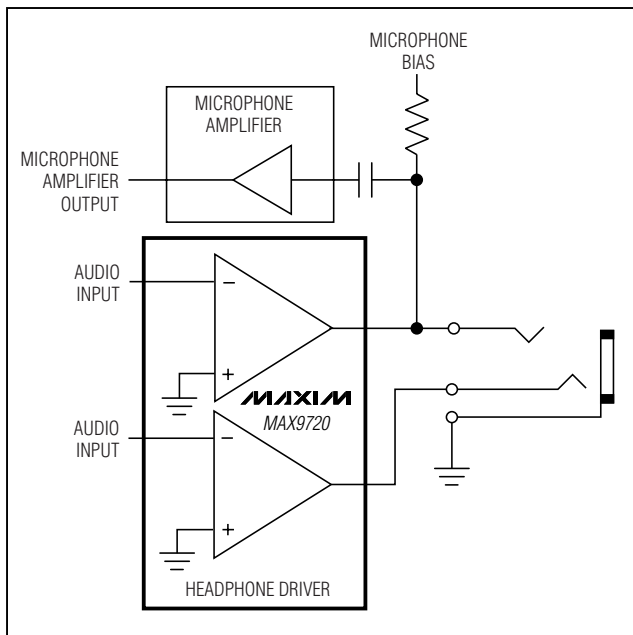

Figure 2. Earbud Speaker/Microphone Combination Headset Configuration
- When using a combination microphone and speaker headset (in a cell phone or PDA application), the microphone typically requires a GND return. Any DC bias on the sleeve conflicts with the microphone requirements (Figure 2).